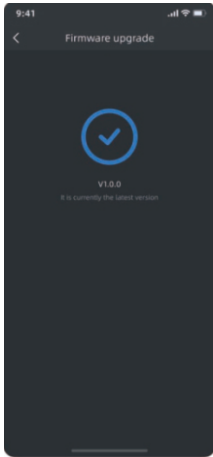

Figure 3
- 3)Figure 3: It shows that the current version is already the latest.